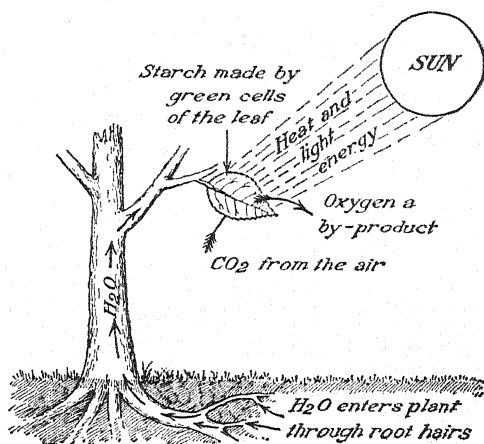

FIG. 117. — A green leaf is a factory fitted to manufacture starch.
**180. Factors that Increase the Amount of Carbon Dioxide in the Air.** The amount of carbon dioxide in outdoor air is about 4 parts in 10,000, and the percentage varies only a little. Over some cities, it may reach as much as 7 parts in 10,000. There are three important factors that are reducing the per cent of oxygen in the air and *increasing the per cent* of carbon dioxide: (1) All fuels contain carbon. When carbon burns in a sufficient supply of air, carbon dioxide is formed. Every ton of carbon that is burned takes  $2\frac{2}{3}$  tons of oxygen from the air, and gives off  $3\frac{2}{3}$  tons of carbon dioxide to it. (2) Practically all animal foods contain carbon. The slow oxidation that occurs during the respiration of animals forms carbon dioxide, which is exhaled to the air. Hence, animals during breathing are reducing the amount of oxygen and increasing the amount of carbon dioxide. (3) When vegetable and animal matter decay, one of the products formed is carbon dioxide. This gas finds its way to the air, and helps to increase the percentage already present.
**181. Factors that Decrease the Amount of Carbon Dioxide in the Air.** We have learned that the per cent of carbon dioxide in the air remains nearly constant, despite the fact that there are three factors that are constantly increasing the amount. It follows that there must be some important factors at work reducing the amount. There are two important ones: (1) Some of the carbon dioxide dis-
solves in water, and this solution acts like a weak acid. It attacks the rocks of the earth's crust as they weather, or disintegrate, and carbonates are formed. Thus the carbon dioxide becomes a part of soils and rocks. (2) All plants that have green coloring matter in their leaves or other tissues take in carbon dioxide and give off oxygen during the process of making starch. Figure 117 shows how a leaf acts as a starch factory. The raw materials include carbon dioxide